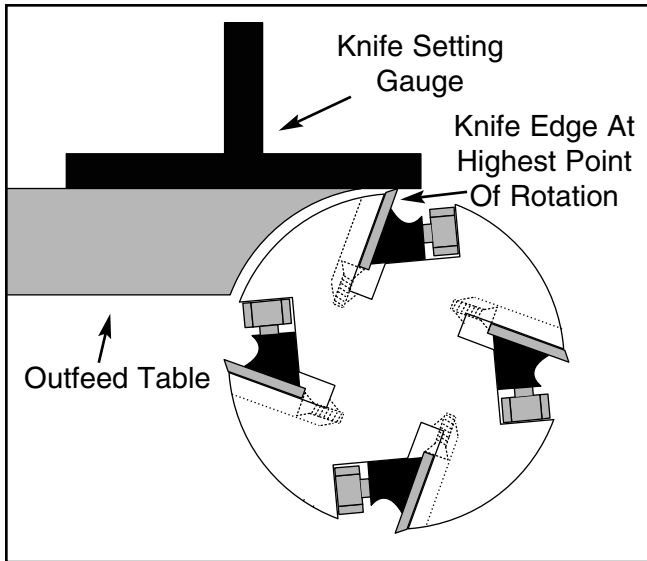

Figure 36. Checking knife with the knife setting gauge.
- Position the knife setting gauge on the outfeed table so that it extends over the cutterhead as shown in **Figure 36**, and loosen the gib bolts until the knife is completely loose.